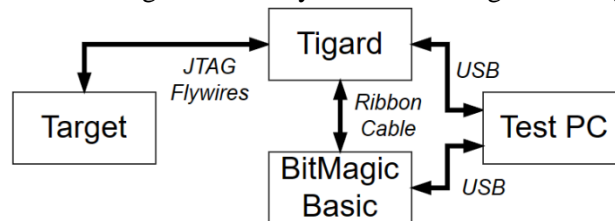

Figure 31: Block diagram for JTAG using Tigard with BitMagic Basic
- Power off your target, then connect the Tigard JTAG flywires to the target. See Figure 31 for a block diagram.